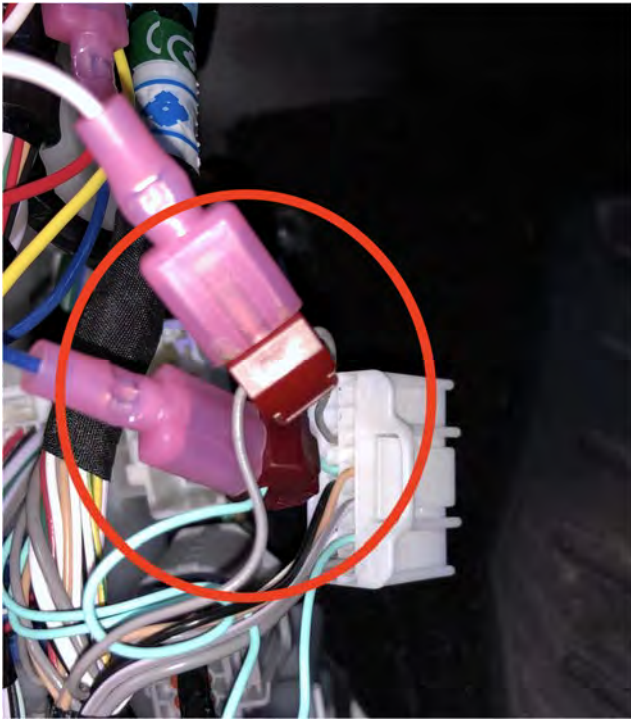

Figure 31
- (b) T-Tap the GRAY unlock wire (Pin #16) with the supplied RED T-tap. Figure 31.